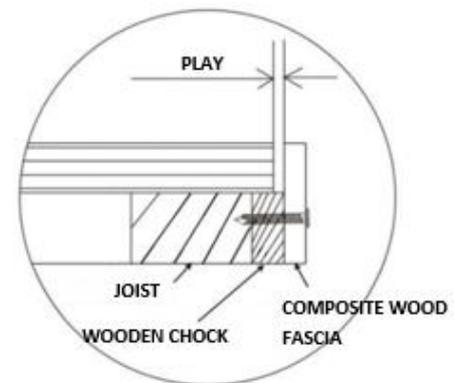

Figure 12
2. The fascia must be installed through the wooden wedge, see Figure 12.